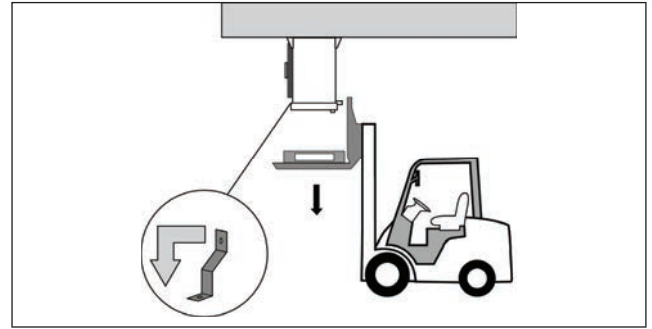

Fig. 9.4
4. Remove the wooden pallet and transportation brackets (Fig. 9.4).